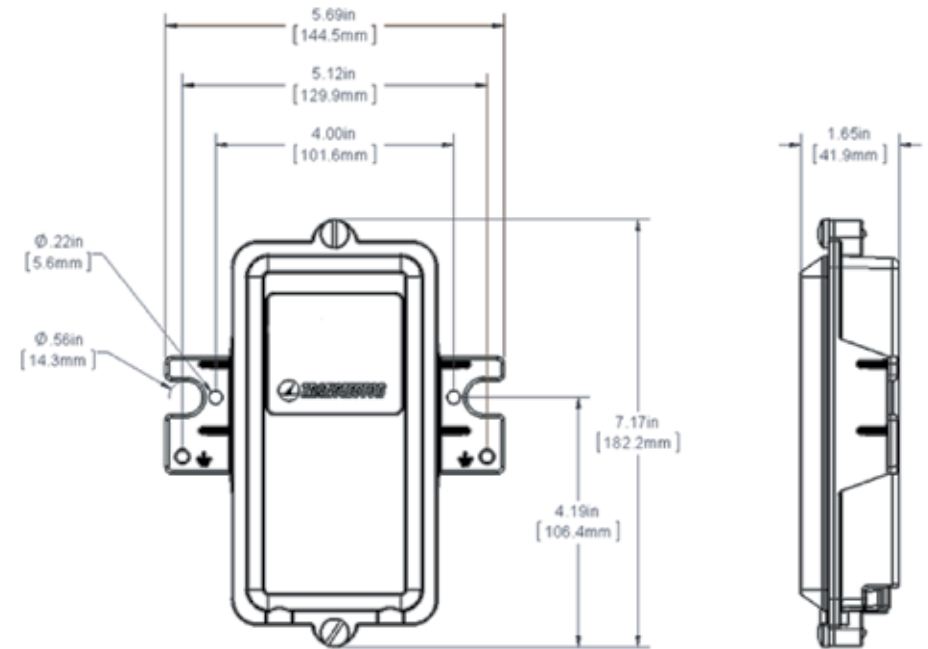

Figure 1 - Mechanical Outline Drawing (in[mm])
2. Mount the device using the two mounting holes, as close to the equipment to be protected as possible with the strain reliefs facing the ground as shown in Figure 1.
6. The ALPU incorporates a 1/4-20 ground stud. Attach a ground reference wire (minimum 8 AWG) as short as possible (less than 3 feet) between this stud and the site grounding point. The two optimum ground connection points are shown on the metal enclosure (see Figure 1). Refer to local codes and equipment manufactures standards before installation.